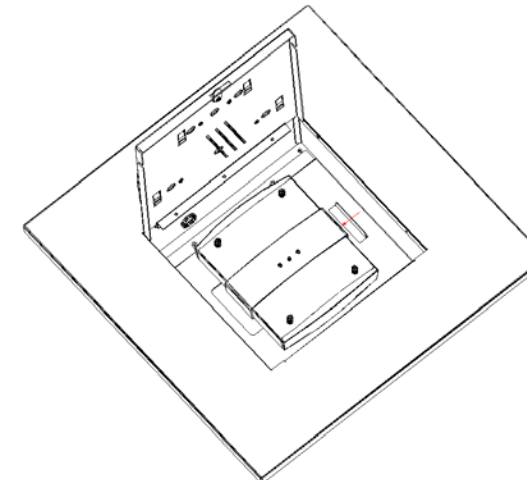

Figure 4 - Lock AP in Place
Step 4 – After the AP is set in the enclosure, lock it in place by sliding the enclosure's locking plate toward the AP until you feel it "click" (the locking plate will slide approximately ½"). Pull up on the AP to verify that it is properly latched. If you feel the AP lift from the enclosure, open the locking plate and adjust the AP so that all four feet fall into the key slots, then slide the locking plate back into position (reference *Figure 4*).